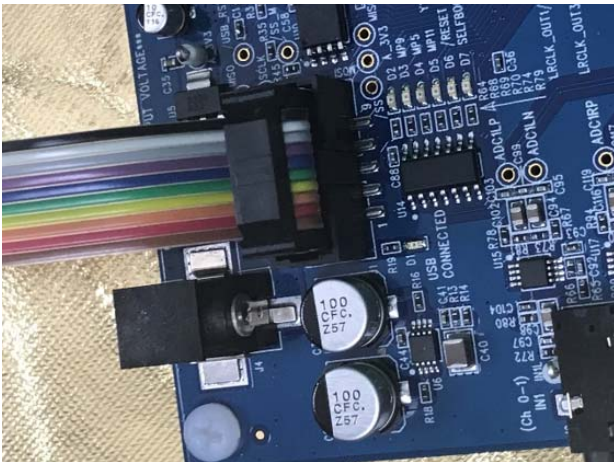

Figure 10. Connecting the **USBi** to the Serial Peripheral Interface (SPI) Control Port Header
4. Connect the ribbon cable of the **USBi** to the control port of the EVAL-ADAU1452REVBZ (see Figure 10). The **USBi** must already be connected to the USB 2.0 port of the computer.